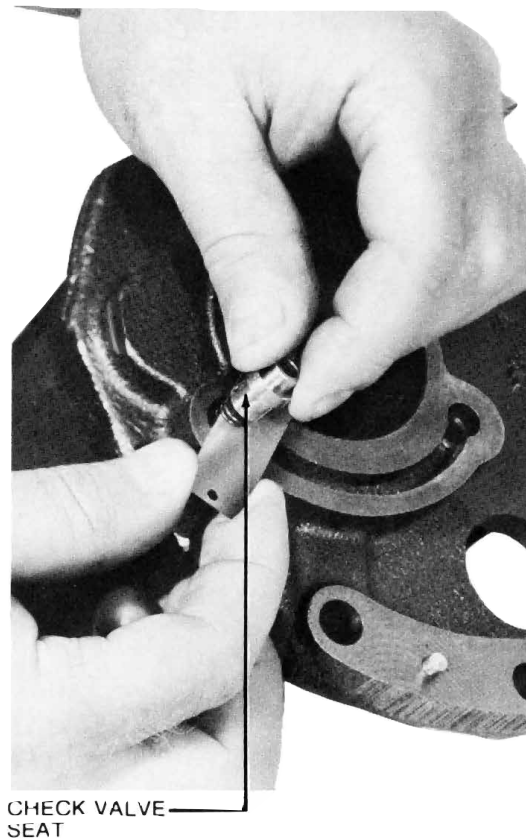

**Figure 21. Hydraulic mechanism partially assembled**
5. Remove the slide valve chamber plug and gasket by means of a 5/8-in. wrench. Parts removed in steps 3, 4 and 5 are shown in Figure 21.